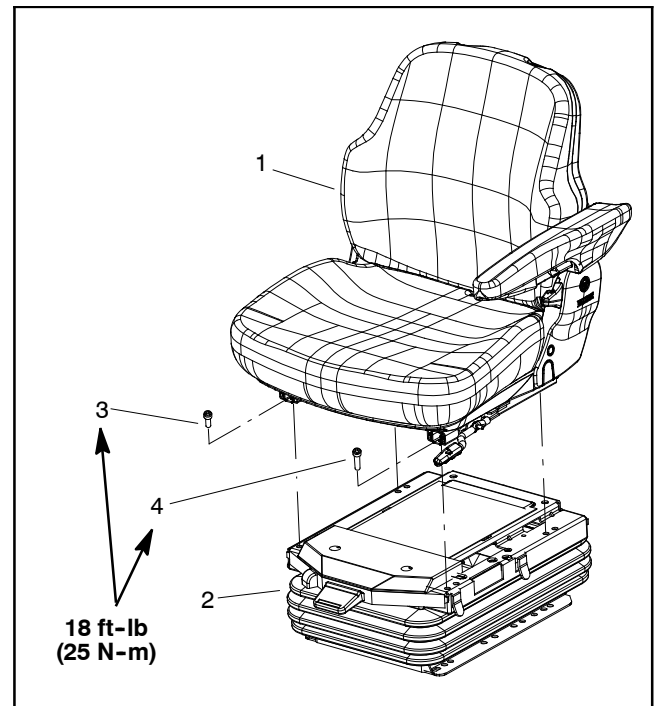

Figure 18
4. Remove flange nut (item 29) and carriage screw (item 28) that secure support bracket (item 24) to support channel (item 22).
5. Remove cap screw (item 30) that secures console arm support (item 23) to coupling nut (item 32).
6. Remove cap screw (item 27), flat washer (item 11), spacer (item 26) and seat belt buckle (item 31) from seat and console arm support (item 23).
8. Remove four (4) torx head screws that secure seat to seat suspension (Fig. 18). Note that the screw near the seat adjustment handle is longer than the other three (3) screws.
2. Secure seat to seat suspension with four (4) torx head screws (Fig. 18). Make sure that longer screw is positioned near the seat adjustment handle. Torque screws **18 ft-lb (25 N-m)**.
A. Secure support bracket (item 24) and support channel (item 22) with flange nut (item 29) and carriage screw (item 28).
B. Secure console arm support (item 23) to coupling nut with cap screw (item 30).
C. Place flat washer (item 11), seat belt buckle (item 31) and spacer (item 26) between seat and console arm support (item 23). Secure with cap screw (item 27).